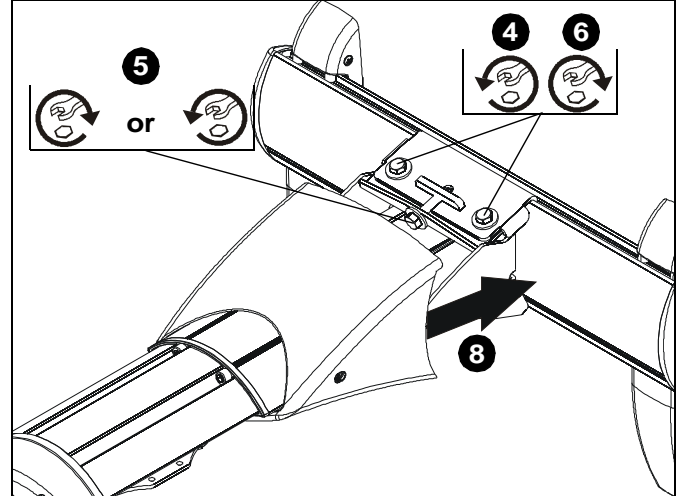

Figure 36
- Loosen two bolts on either side of pitch adjustment screw. (See Figure 36)
- Adjust pitch adjustment screw until mount is at desired pitch level. Turn clockwise to raise mounting level or turn counterclockwise to lower mounting level. (See Figure 36)
- Tighten two bolts on either side of pitch adjustment screw. (See Figure 36)
- Tighten two 1/4-20 x 5/8" screws (E) on underside of mounting bracket. (See Figure 36)
- Slide outer cover of mount (A) back against mounting bracket. (See Figure 36)